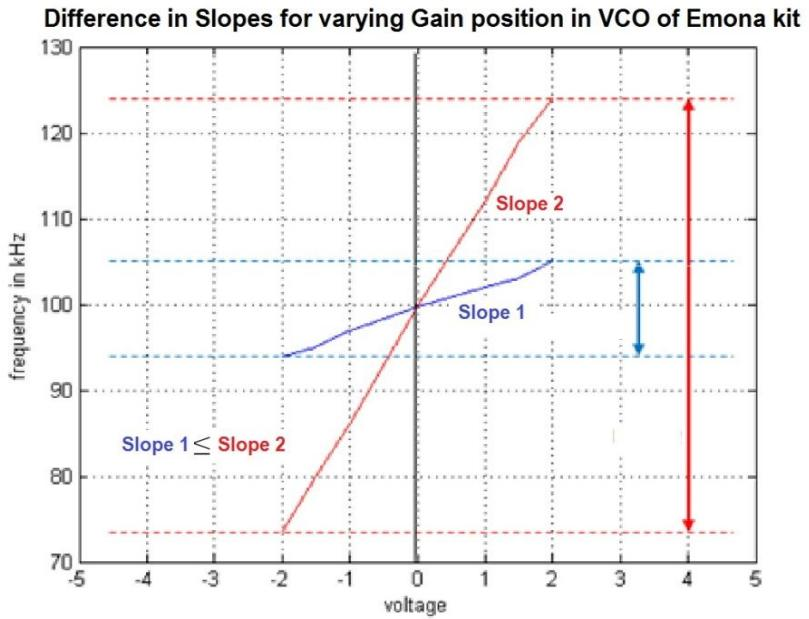

Figure 7- VCO Characterization for Different VCO gain positions
- c) Plot a graph between VCO's input Voltage and Frequency of the VCO output. You may use the graph sheet, provided to you, for plotting the graph. (Refer to Figure 7 for Sample plot). Calculate the slope of this plot as **Slope1**. You will realize the need for this plot after going through few more steps.
- i) On the plot, as in Figure 7, draw lines parallel to the X-axis, corresponding to f_L and f_H and note the Voltage values corresponding to the points where the horizontal lines intersect the VCO characterization curve, and tabulate in Table 1.
- l) Again, on the plot, as in Figure 7, draw lines parallel to the X-axis, corresponding to these new f_L and f_H , corresponding to the new VCO gain position (\leftarrow) and note the Voltage values corresponding to the points where the horizontal lines intersect the VCO characterization curve, and tabulate in Table 1.